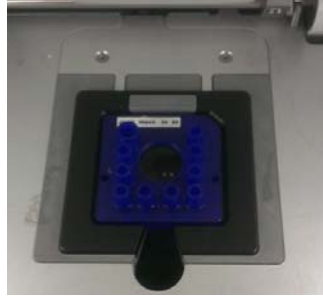

Figure 5. Chip in the LabChip GX Touch/GXII Touch instrument.
- 4 Insert the chip into the LabChip GX Touch/GXII Touch instrument (Figure 5) and close the chip door securely.